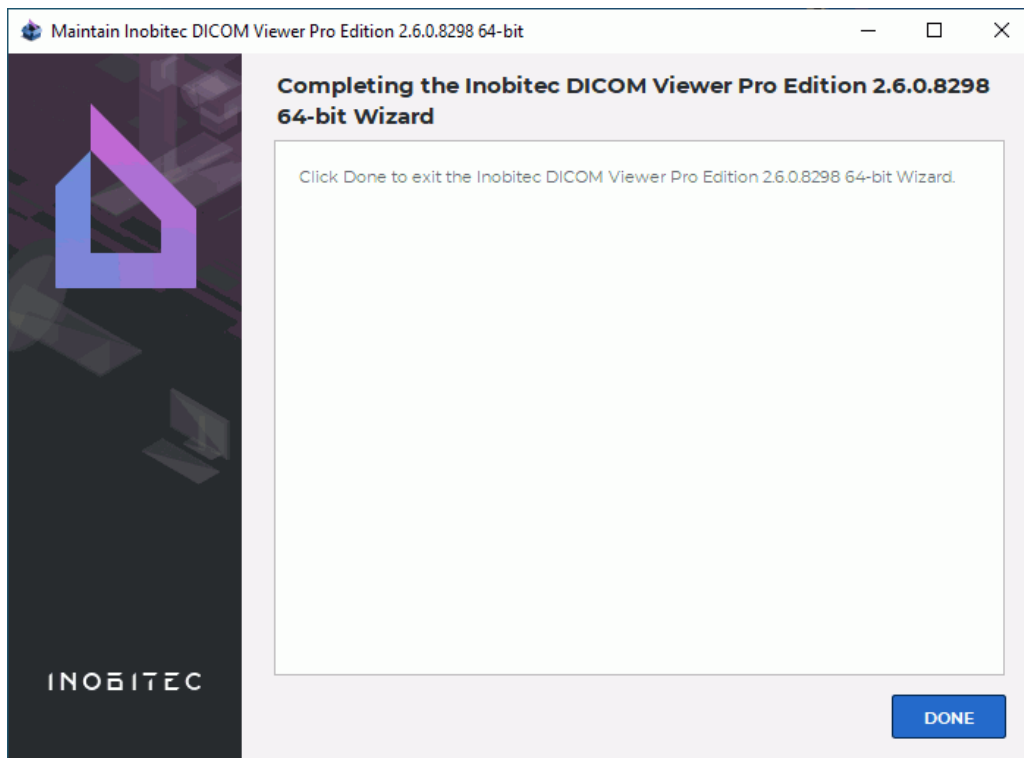

Figure 14: Uninstallation complete
4. In the confirmation window click the **DONE** button (Fig. 14).